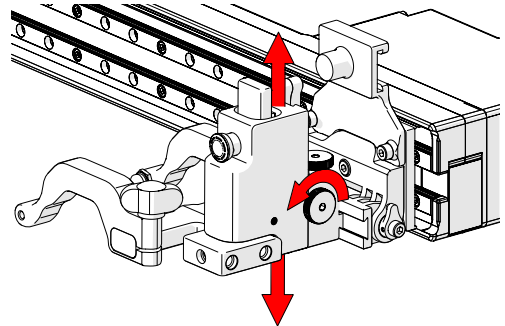

Fig. 192 - Vertical adjustment
2. The vertical adjustment knob (*Fig. 192*) allows the heavy duty vertical probe holder's height adjustment. This adjustment also controls the probe holders spring tension.